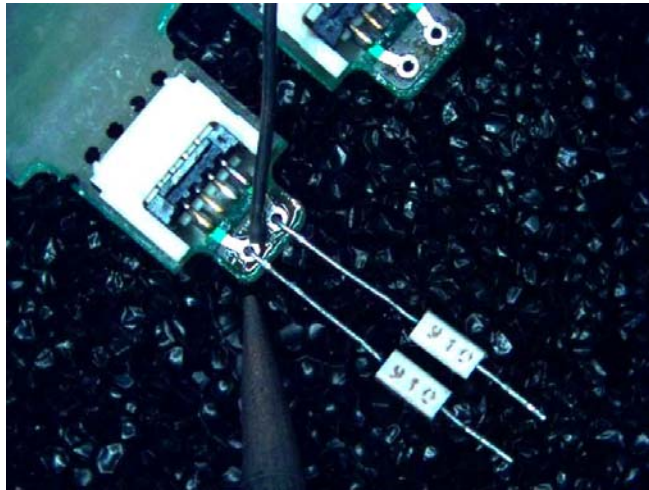
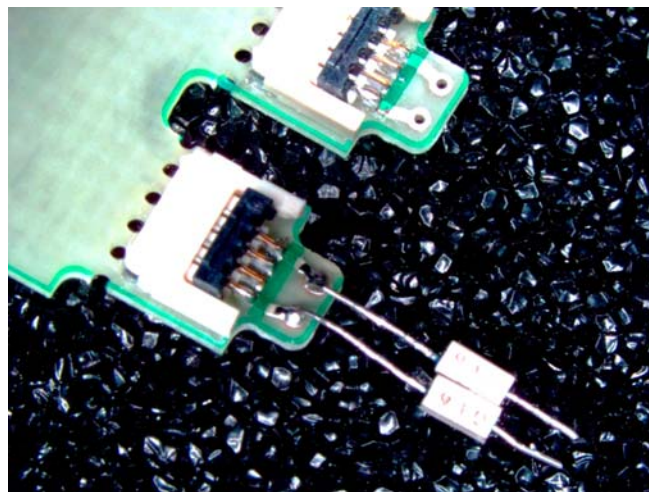

Figure 80 Soldering the Resistors
Figure 81 Solder Fillets Surrounding the Resistor Lead Wires
- 7 Momentarily apply the soldering iron tip to the resistor lead wires as shown in Figure 80. Touch the solder to the heated lead wire near the trace hole. A good fillet should form around the lead wire, thus sealing the trace hole. Figure 81